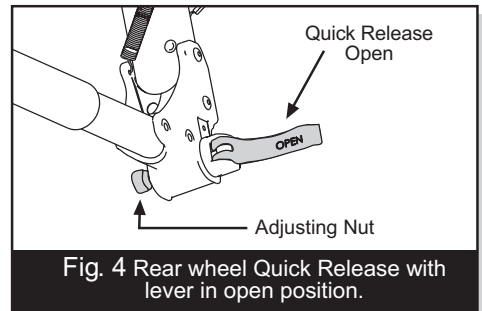
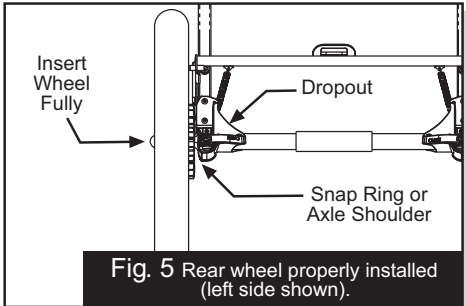
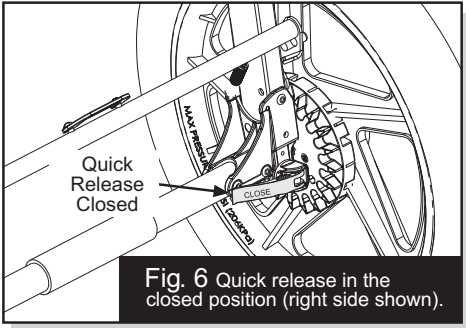

Fig. 4 Rear wheel Quick Release with lever in open position.
Fig. 5 Rear wheel properly installed (left side shown).
Fig. 6 Quick release in the closed position (right side shown).
4. REAR WHEEL: Place the rear wheel quick release lever in the open position, as shown in Fig. 4. Insert the rear wheel's stub axle into the hole in the rear dropout. If the axle does not slide in easily, loosen the quick
release adjusting nut (Fig. 4) by hand. Re-insert the axle fully into the rear dropout until the axle shoulder or snap ring on the axle comes in contact with the dropout (Fig. 5).
Move the quick release lever to the closed position (Fig. 6). The word CLOSE should be clearly visible and the quick release lever should almost touch the dropout. When properly adjusted, it will require considerable torque (80-105 in-lbs or 9-12 Nm) to close the lever. If you do not feel this resistance (too loose or too tight), return the quick release lever back to the open position (Fig. 4), and adjust the adjusting nut (clockwise to tighten, counterclockwise to loosen). Move the quick release lever to the closed position (Fig. 6).
(see section 5). The rear wheels are removed by releasing the parking brake (See section 8), and then opening the rear wheel quick release (Fig. 4), and pulling each wheel directly to the side. The Wrist Safety Strap can be used to keep the stroller in the folded position for transport and storage. With the stroller folded, loop the end of the wrist safety strap around the handlebar and back to the cross tube and fix the Velcro surfaces together (Fig. 24).